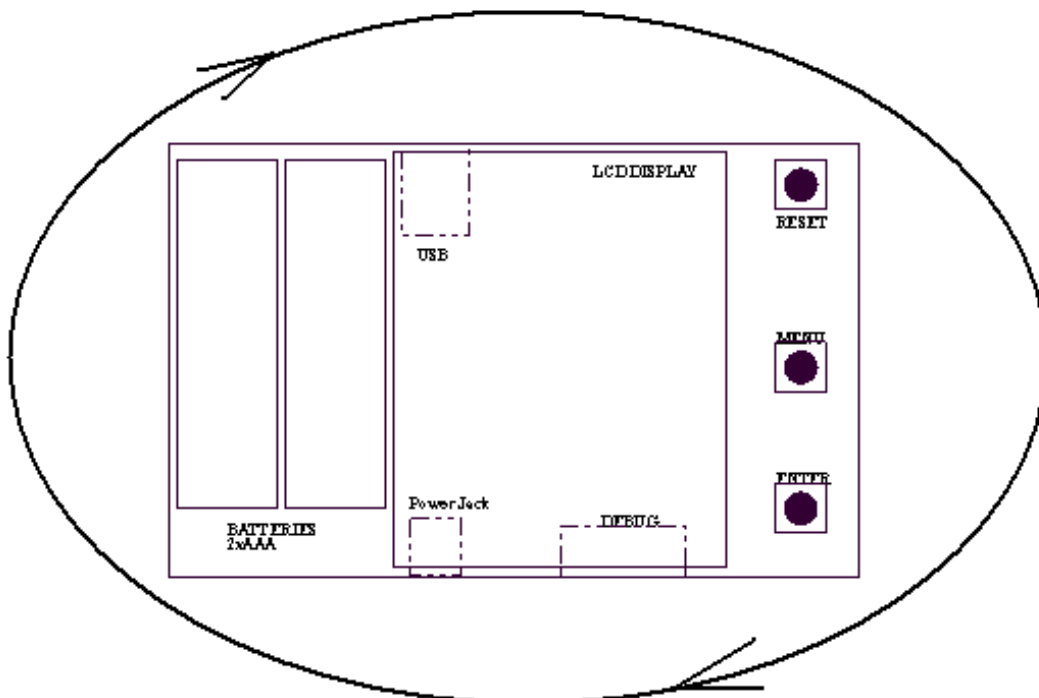

Figure 8. Compass Rotation during Calibration
2. Start rotating the compass and keep it as horizontal as possible (Figure 8). Any tilt of the compass during the rotation will introduce errors in the calibration values. The arrow will make one complete turn during this step of the calibration procedure. While the arrow makes a complete turn, it is recommended that the compass be rotated approximately four complete turns.